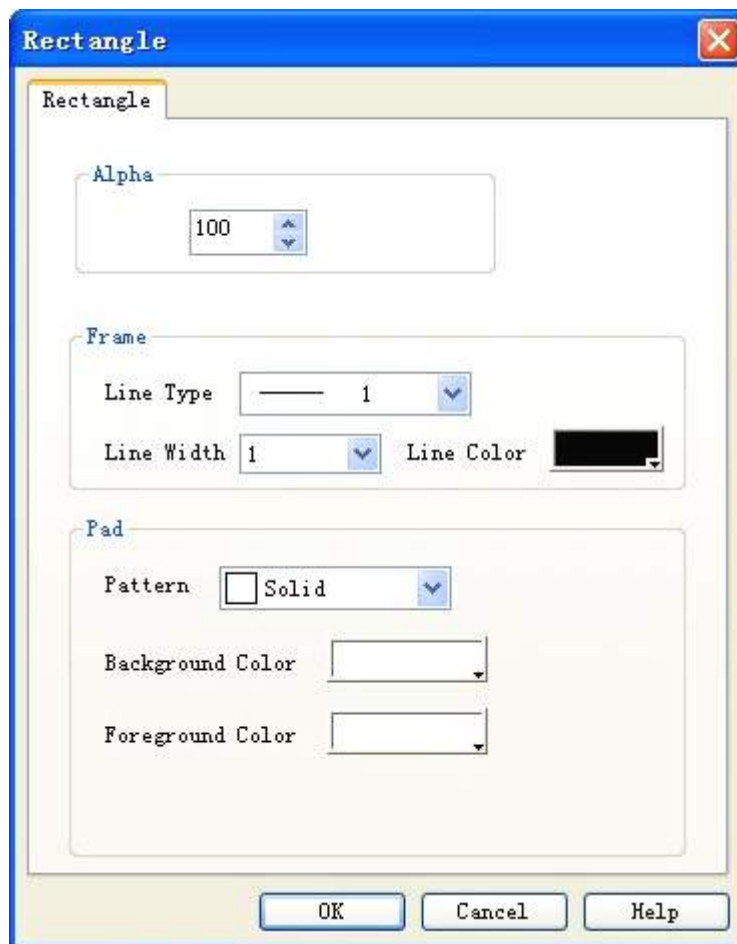

Figure 4-36: Rectangle properties dialog
- After completing the above steps, the rectangle has default settings in transparency, line type, line width, line color, and filling pattern. You can modify these settings basing on actual needs. To do this, move the mouse onto the rectangle and double click, or click Properties button  in the tool bar after choosing the rectangle. At this moment, a property dialog as shown in Figure 4-36 will appear.